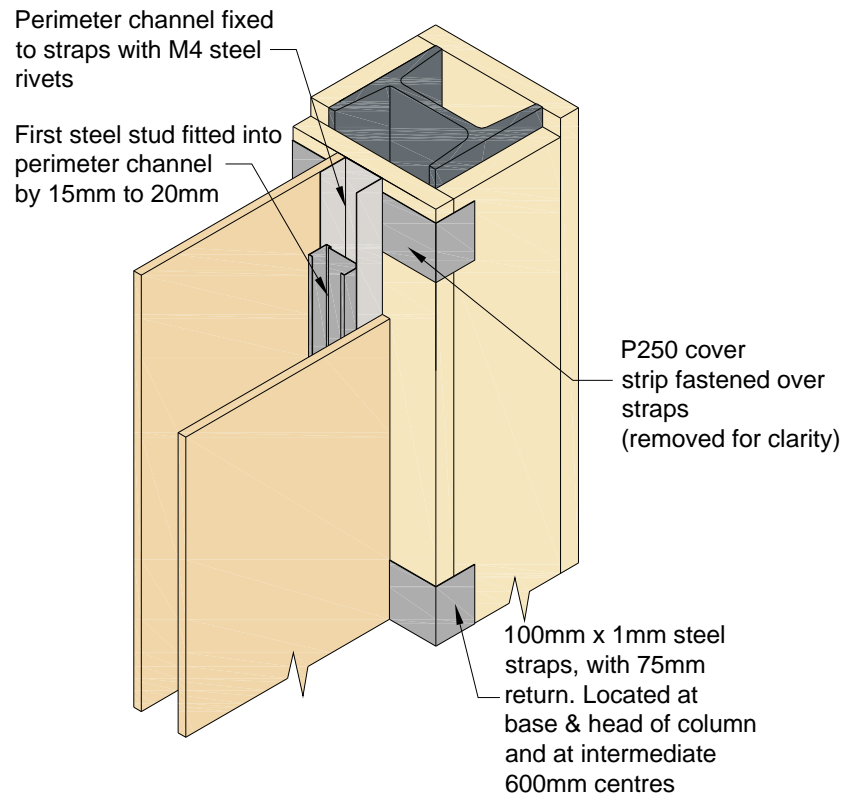

Figure 1
The arrangements shown in Figures 1 and 2 are for applications where the PROMATECT® -250 casing has been erected before the addition of the partition system.
**Figure 1:** Steel straps, made from 100mm x 1mm steel formed around the PROMATECT®-250 casing with 75mm return, are fastened to the column flanges, through the PROMATECT® -250, with two M4 self tapping screws each side. The straps are located at the head and base of the column and at 600mm centres in between. A vertical steel channel is fastened to the straps with M4 steel rivets, and the first steel stud is fitted into the channel by 15-20mm. The facing boards are screwed to the first stud, but not to the end channel and should abut to the PROMATECT®-250 casing. A PROMATECT® -250 cover strip is fastened over the steel straps on both sides of the partition. If rock wool is fitted in the cavity of the partition then this must also be fitted to the end channel.